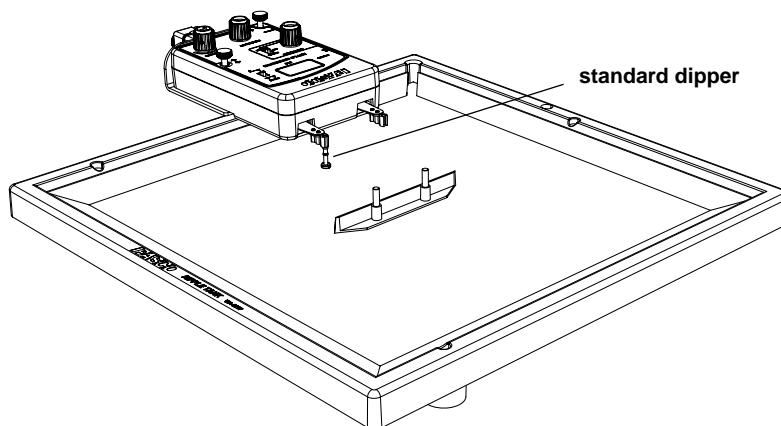

Figure 5.2: Position of Barrier
8. Arrange the long barrier near the middle of the tank so that the midpoint of the barrier is aligned with the ripple arm that holds the standard dipper. Adjust the barrier so it is parallel to the front of the ripple generator as in Figure 5.2.